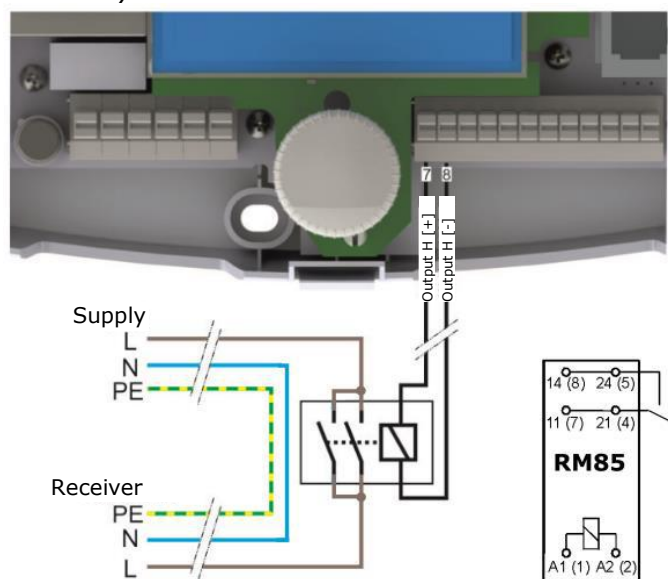

Fig. 16.11 Connection of relay to H output.
- 1. Unipolarly with return spring:** such valve connect to **H** output of the controller through a relay, like in Fig. 16.11